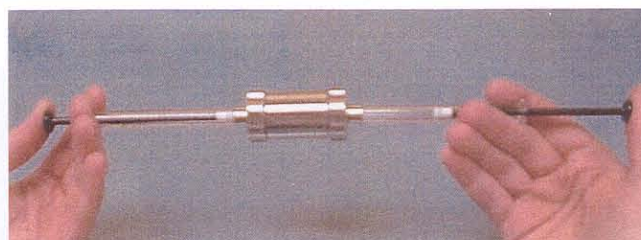

Figure 5: Push the sample by hand from one syringe to another across the membrane.
7.8 Pass the liposome emulsion back and forth through the membrane(s). Usually, 11 to 21 passes are sufficient. (See Figure 5).